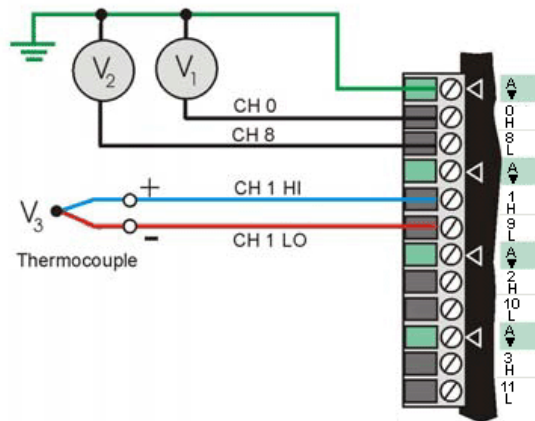

Figure 1. Single-ended voltage connections ( $V_1$  and  $V_2$ ) and differential thermocouple connections ( $V_3$ )
- Connect voltage signals as single-ended or differential connections (see Figure 1).
- Connect thermocouple signals as differential connections (see Figure 1). The negative (typically, the red) thermocouple wire connects to the channel's LO connector, and the other color wire connects to the channel's HI connector.